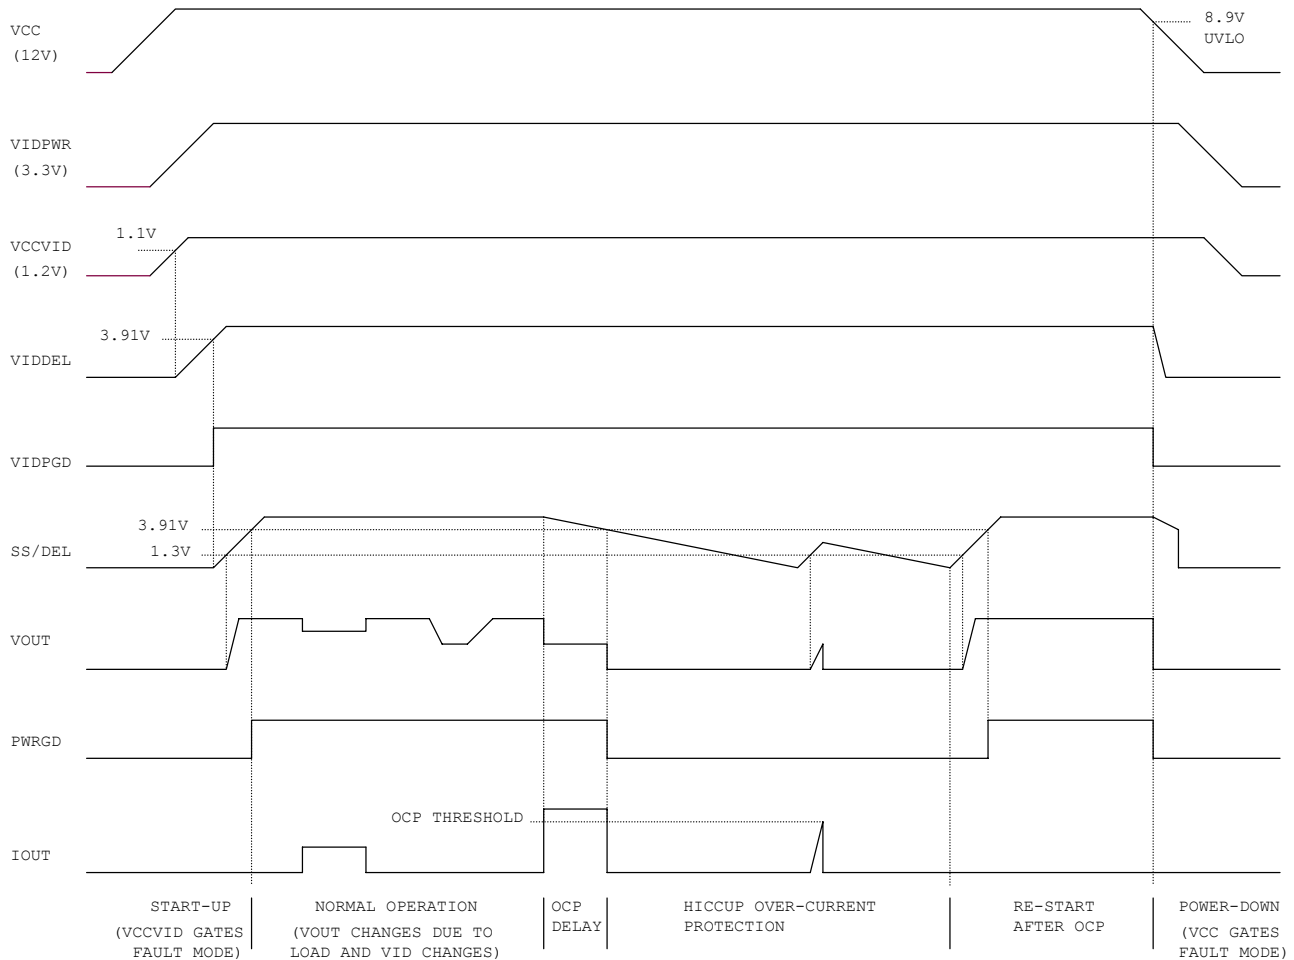

Figure 11. Operating Waveforms
Figure 11 depicts the various operating modes as controlled by the SS/DEL function. If there is no fault, the SS/DEL capacitor pin will begin to be charged. The error amplifier output is clamped low until SS/DEL reaches 1.3V. The error amplifier will then regulate the converter's output voltage to match the SS/DEL voltage less the 1.3V offset until it reaches the level determined by the VID inputs. The SS/DEL voltage continues to increase until it rises above 3.91V and allows the PWRGD signal to be asserted. SS/DEL finally settles at 4V, indicating the end of the soft start.
The SS/DEL pin voltage controls the slew rate of the converter output voltage, as shown in Figure 11. After the VIDDEL pin voltage rises above 3.91V, there is a soft-start delay time  $t_{SSDEL}$ , after which the error amplifier output is released to allow the soft start. The soft start time  $t_{SS}$  represents the time during which converter voltage rises from zero to  $V_O$ .  $t_{SS}$  can be programmed by an external capacitor, which is determined by Equation (2).